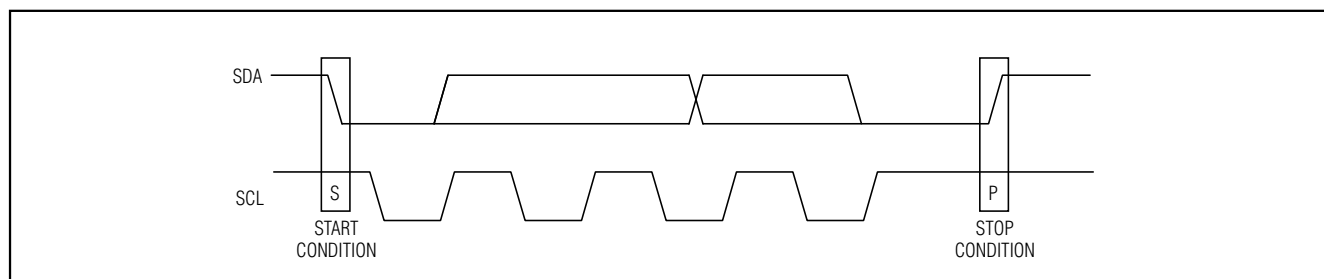
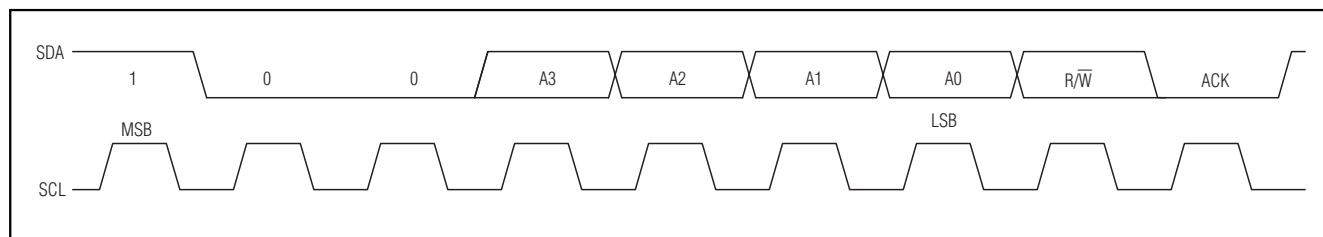

Figure 3. Start and Stop Conditions
Figure 6. Slave Address
Each transmission consists of a START condition (Figure 3) sent by a master, followed by the MAX7300 7-bit slave address plus R/W bit (Figure 6), a register address byte, one or more data bytes, and finally a STOP condition (Figure 3).
Both SCL and SDA remain high when the interface is not busy. A master signals the beginning of a transmission with a START (S) condition by transitioning SDA from high to low while SCL is high. When the master has finished communicating with the slave, it issues a STOP (P) condition by transitioning SDA from low to high while SCL is high. The bus is then free for another transmission (Figure 3).
The MAX7300 has a 7-bit-long slave address (Figure 6). The eighth bit following the 7-bit slave address is the  $\overline{R/W}$  bit. It is low for a write command and high for a read command.